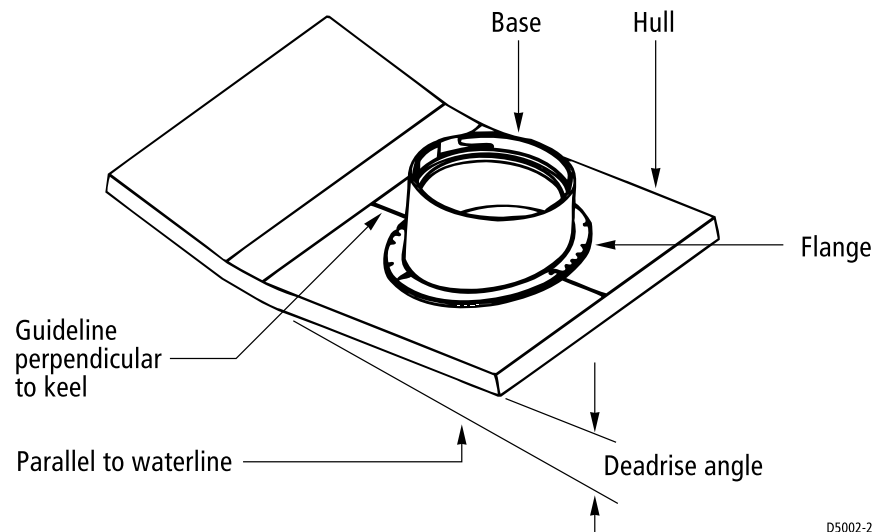

Figure 2-20: Deadrise Angle
1. Measure the deadrise angle of the hull at the selected location using a level and protractor (see Figure 2-20). Measure carefully, since the installed transducer must be within 5° of vertical.